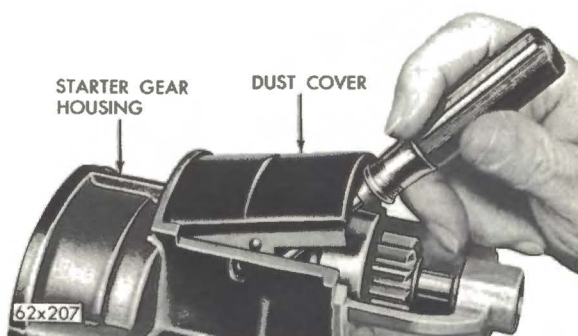

Fig. 13 Removing Dust Cover
(18) Remove the dust cover from the gear housing (See Fig. 13).